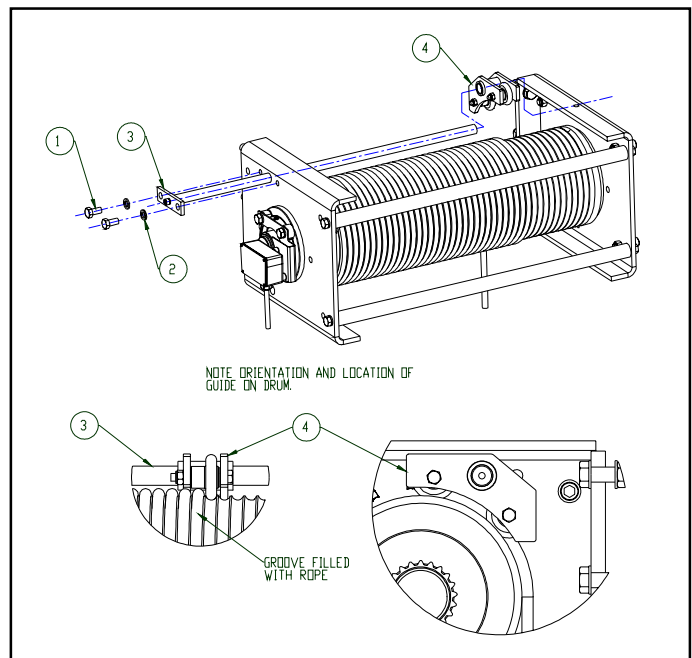

Figure 5-3b. Rope Guide Assembly ('D' Frame)
- (4) Remove the split plastic shroud (Item 2) from the drum. When reassembling the rope guide, be sure the plastic shroud (Item 2) fits snugly in the rope guide body groove.
- (5) Thoroughly clean and inspect all components.
- (6) Follow steps in reverse to reassemble. Be sure to regrease the rope guide with **MPG** (Paragraph 4-7), after assembling.
c) **Disassembly for "D" Frame.** Refer to Fig. 5-3b. For further assistance in locating components, refer to the parts list in Section IX.
- (1) Remove hex head cap screws and lock washers (Items 1 and 2). Pull back on drum frame rod assembly (Item 3) until the free end pulls free of the gearcase end drum bracket.
- (2) Slide the rope guide assembly (Item 4) off the end of the drum frame rod and remove from drum groove area. Note the required orientation of the rope guide assembly for re-installation.
- (3) Thoroughly clean and inspect all components.
- (4) Follow steps in reverse to re-install, paying attention to orientation and making sure to seat the assembly into the correct drum groove. Be sure to regrease the rope guide with MPG (Paragraph 4-7), after assembling.